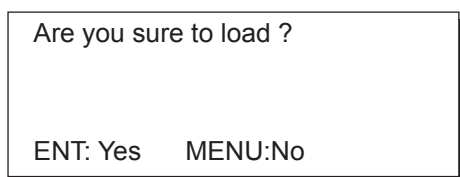

Figure 8-17
- 4) Press **▶** to select Start. The message shown in Figure 8-17 appears.